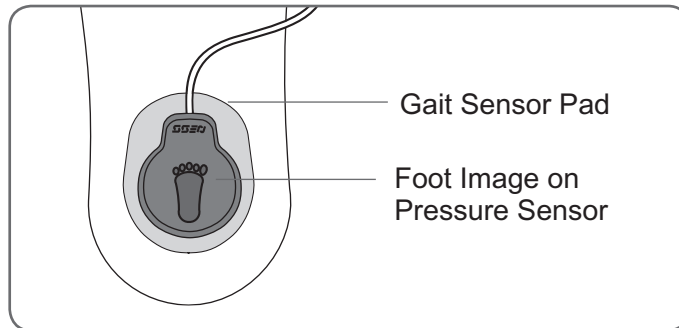

Figure 9: Positioning the pressure sensor in the shoe.
3. Point the wire of the pressure sensor toward the toe of the shoe. Then, attach the pressure sensor to the Gait Sensor pad. See Figure 9. Refer to the foot image on the pressure sensor for positioning.